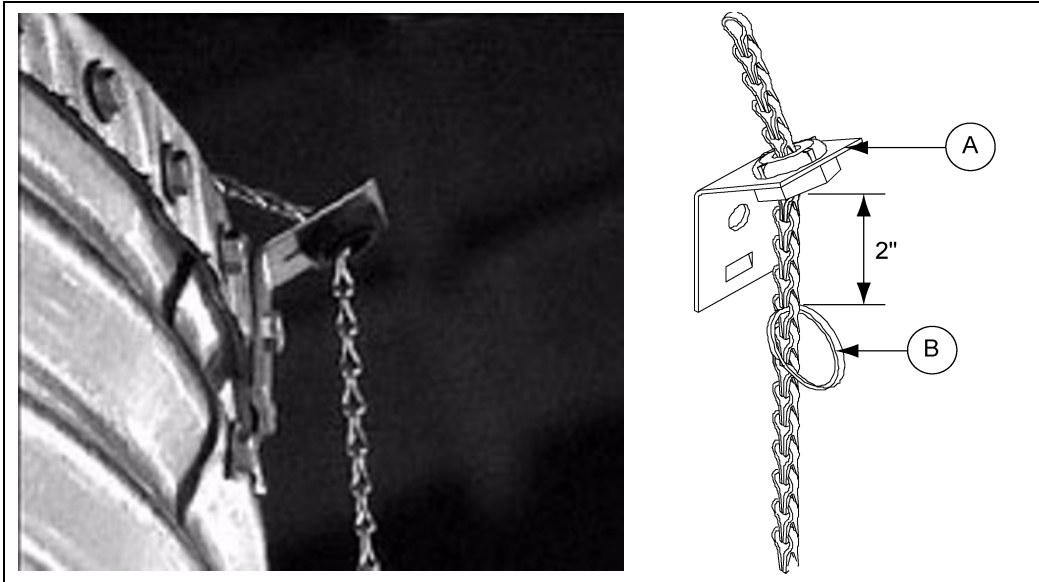
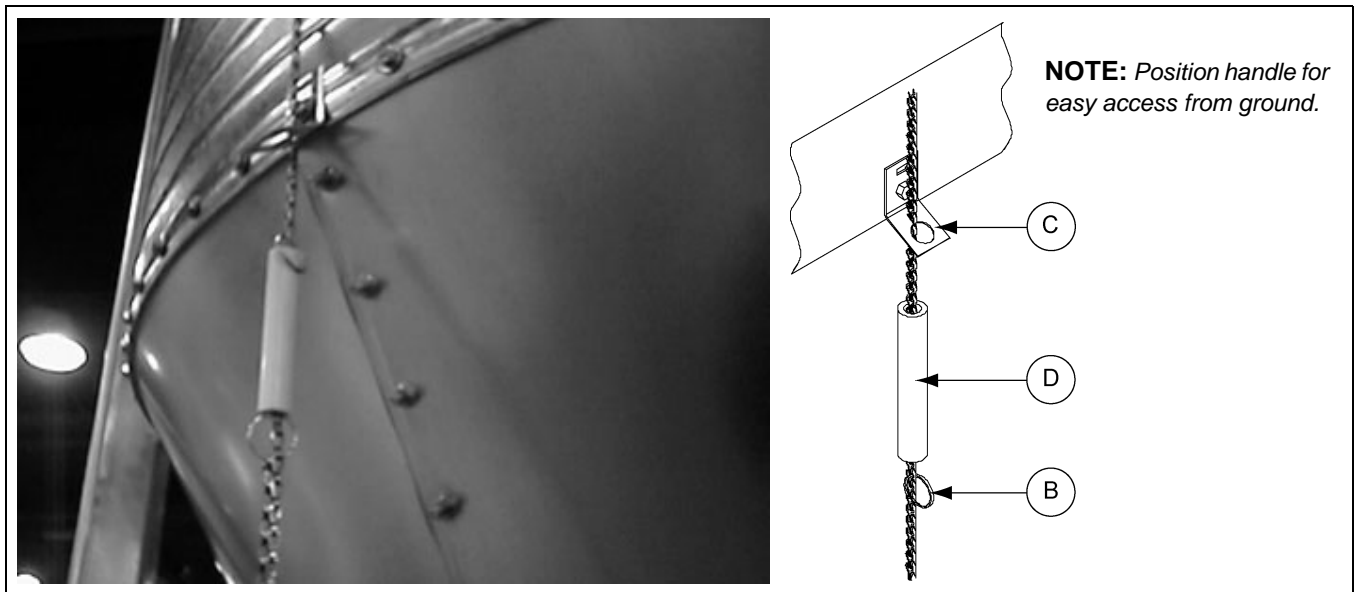

Figure 11F
Figure 11G
- Thread the existing chain through the hole on the end of the lever arm and fasten it to the provided key ring. (See Figure 11B on Page 56.) Ensure that the ground control chain is freely looped through the roof eave bracket and chain holder. After removing the slack in the chain while the lid is fully closed and in latched position, re-position the key ring 2" below the roof eave bracket. (See Figure 11F.) Re-adjust the existing handle and key ring so the handle is positioned for easy access from ground. (See Figure 11G.) Check to make sure that the key rings allow the cap to fully close, but will not allow the chain enough slack on top of the cap to become wrapped around the lever arm in a high wind condition.